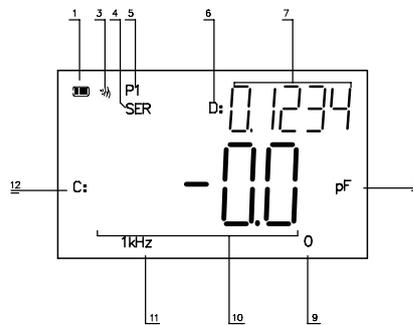

Figure 4-1 Measurement Display
- Press **EQU** key to select the Series or Parallel circuit mode. (Refer to Figure4-1)